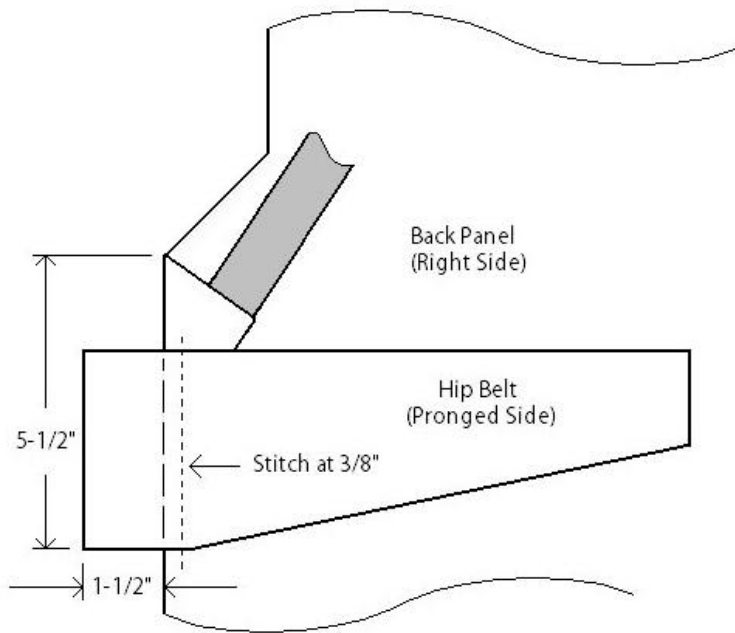

Figure 13. Attaching Waist Straps to Back Panel
4.5.1 Sew open ends of waist belts to back panel, using a 3/8" seam. Position as shown in Figure 13.